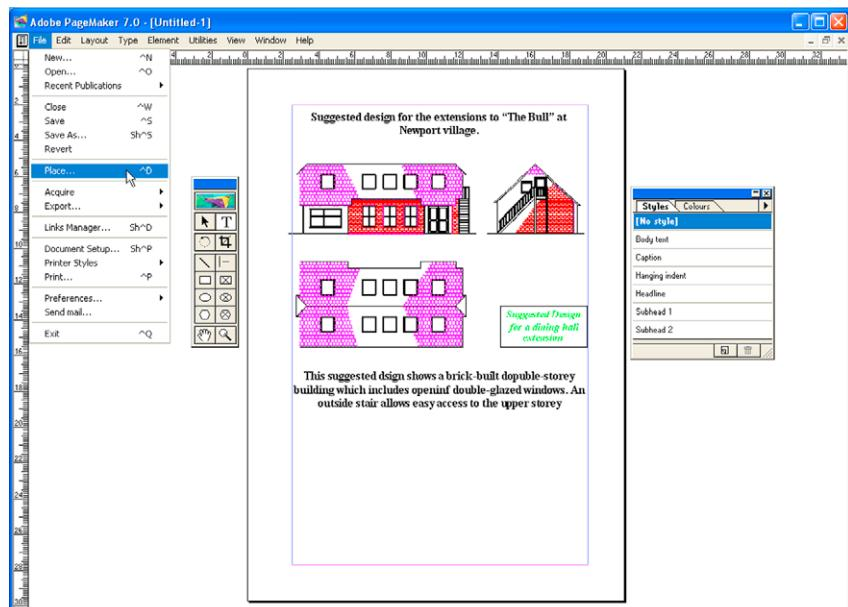

Fig. 10.4 An *eps file placed in position in a PageMaker document
- Open a desktop publishing application. That shown in Fig. 10.4 is **PageMaker**.
name and an icon appears the placing of which determines the position of the *eps file drawing in the PageMaker document (Fig. 10.4).